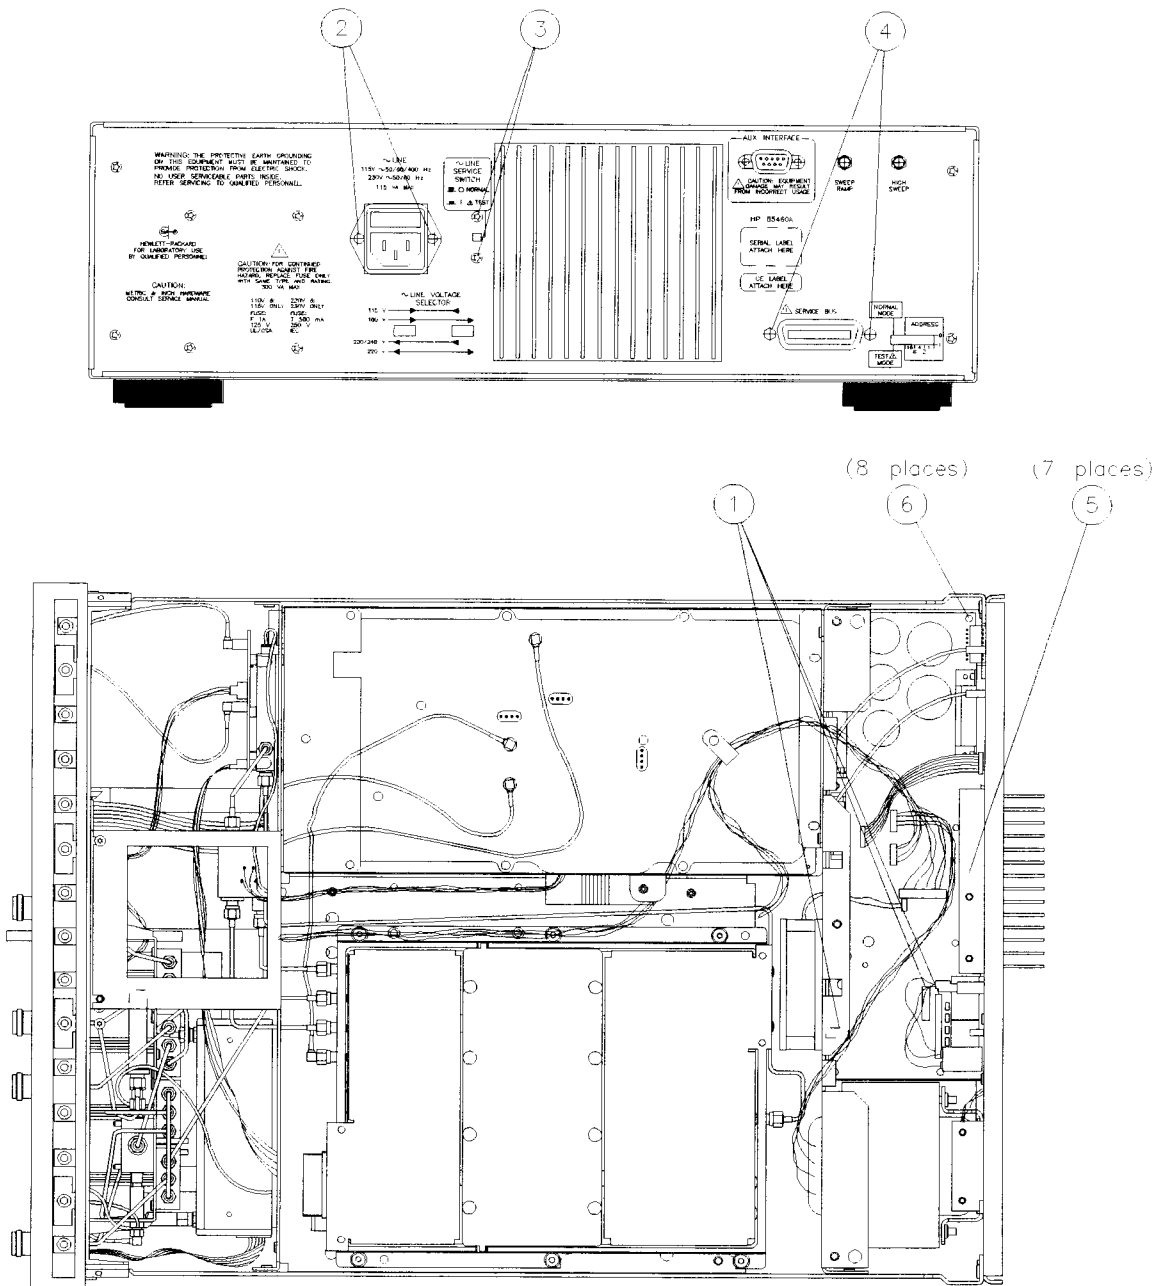

Figure 4-16 A13 Power Supply Board Replacement
2. Disconnect the cables going to A13 Power Supply board connectors J1, J8, and J9 (1). Refer to Figure 4-16 on page 4-32.
3. Remove the two screws on the line module located on the outside of the rear panel and remove the line module (2).
4. Remove the two screws on the line-service switch located on the outside of the rear panel and remove the line service switch (3).
5. Remove the two hex nuts that secure the service-bus connector to the rear-panel chassis (4).
6. Remove the seven screws that secure the regulators to the rear-panel chassis (5). *Take care not to damage insulator.*
7. Remove the eight screws that secure the power supply board to the rear-panel chassis (6).
2. Replace the eight screws that secure the power supply board to the rear-panel chassis (6). Refer to Figure 4-16 on page 4-32.
3. Replace the seven screws that secure the regulators to the rear-panel chassis (5). *Take care not to damage insulator.*
4. Replace the two hex nuts that secure the service-bus connector to the rear-panel chassis (4).
6. Replace the two screws on the line service switch located on the outside of the rear panel (3).
8. Replace the two screws on the line module located on the outside of the rear panel (2).
9. Connect the cables going to J1, J8, and J9 (1).